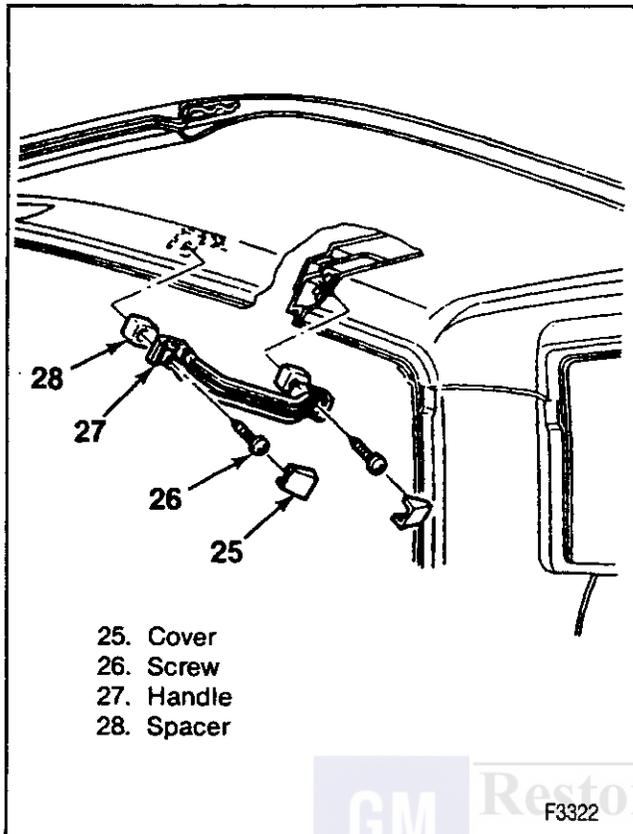

Figure 9—Assist Handle Replacement
**Remove or Disconnect (Figure 9)**
- 1. Handle screw covers (9).
↔ Install or Connect (Figure 9)